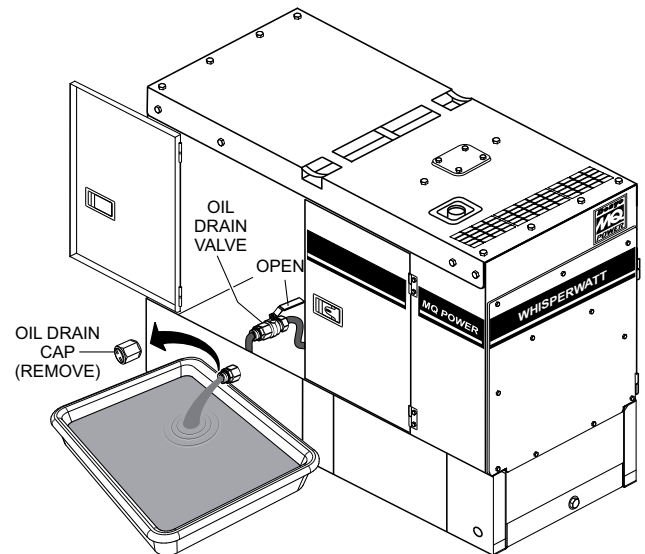

Figure 89. Draining Engine Oil
3. Remove the **oil drain cap** (Figure 89).